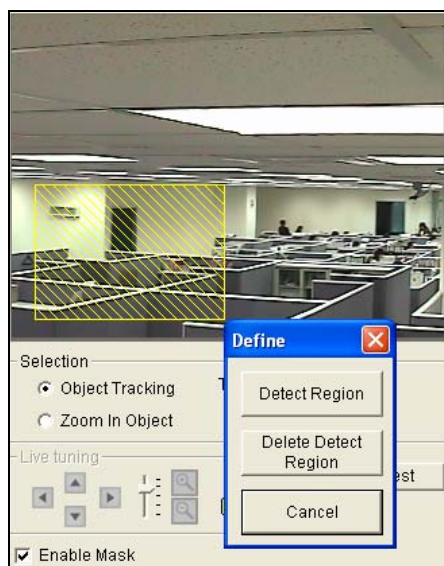

Figure 3-3
6. Select **Define Detect Region** from the drop-down menu. Use the mouse to outline a detection region in the right image; you will be prompted to enter **Detect Region**. See Figure 3-3.